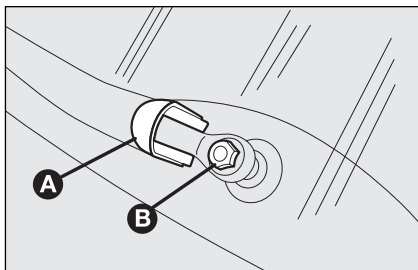

fig. 15
- raise the cover **A-fig. 15** and remove the arm from the car, slackening the nut **B** that fastens it to the pivot pin;